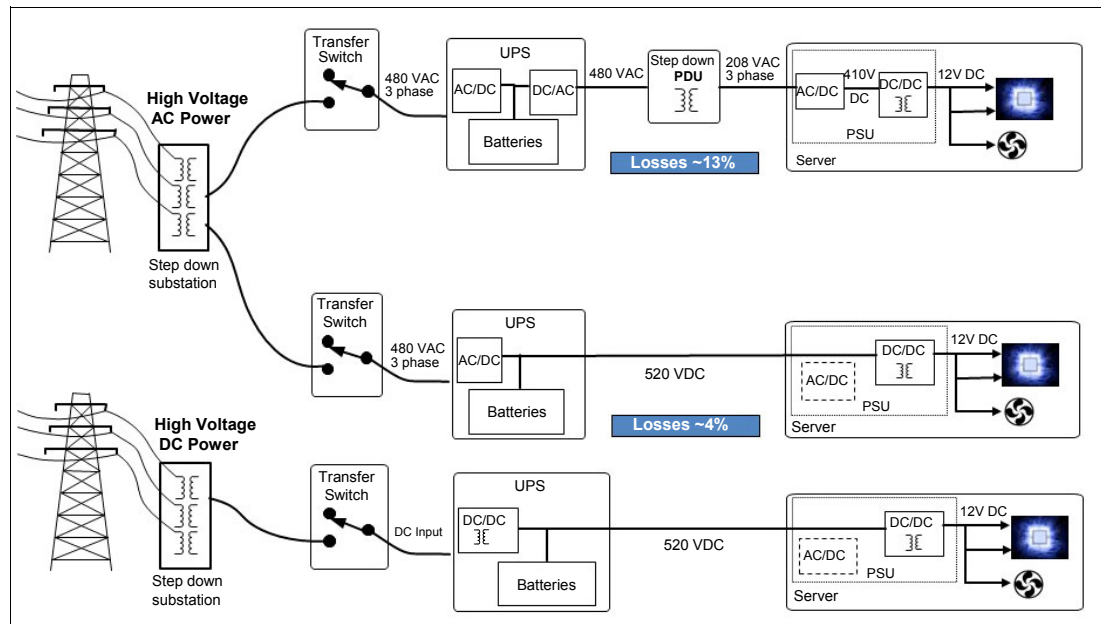

Figure 2-26 AC versus DC distribution
The High Voltage Direct Current power feature is an option for z14 servers. It allows z14 servers to directly use the high voltage (HV) DC distribution, as shown in Figure 2-26. A direct HV DC data center power design can improve data center energy efficiency by removing the need for a DC-to-AC inversion step.